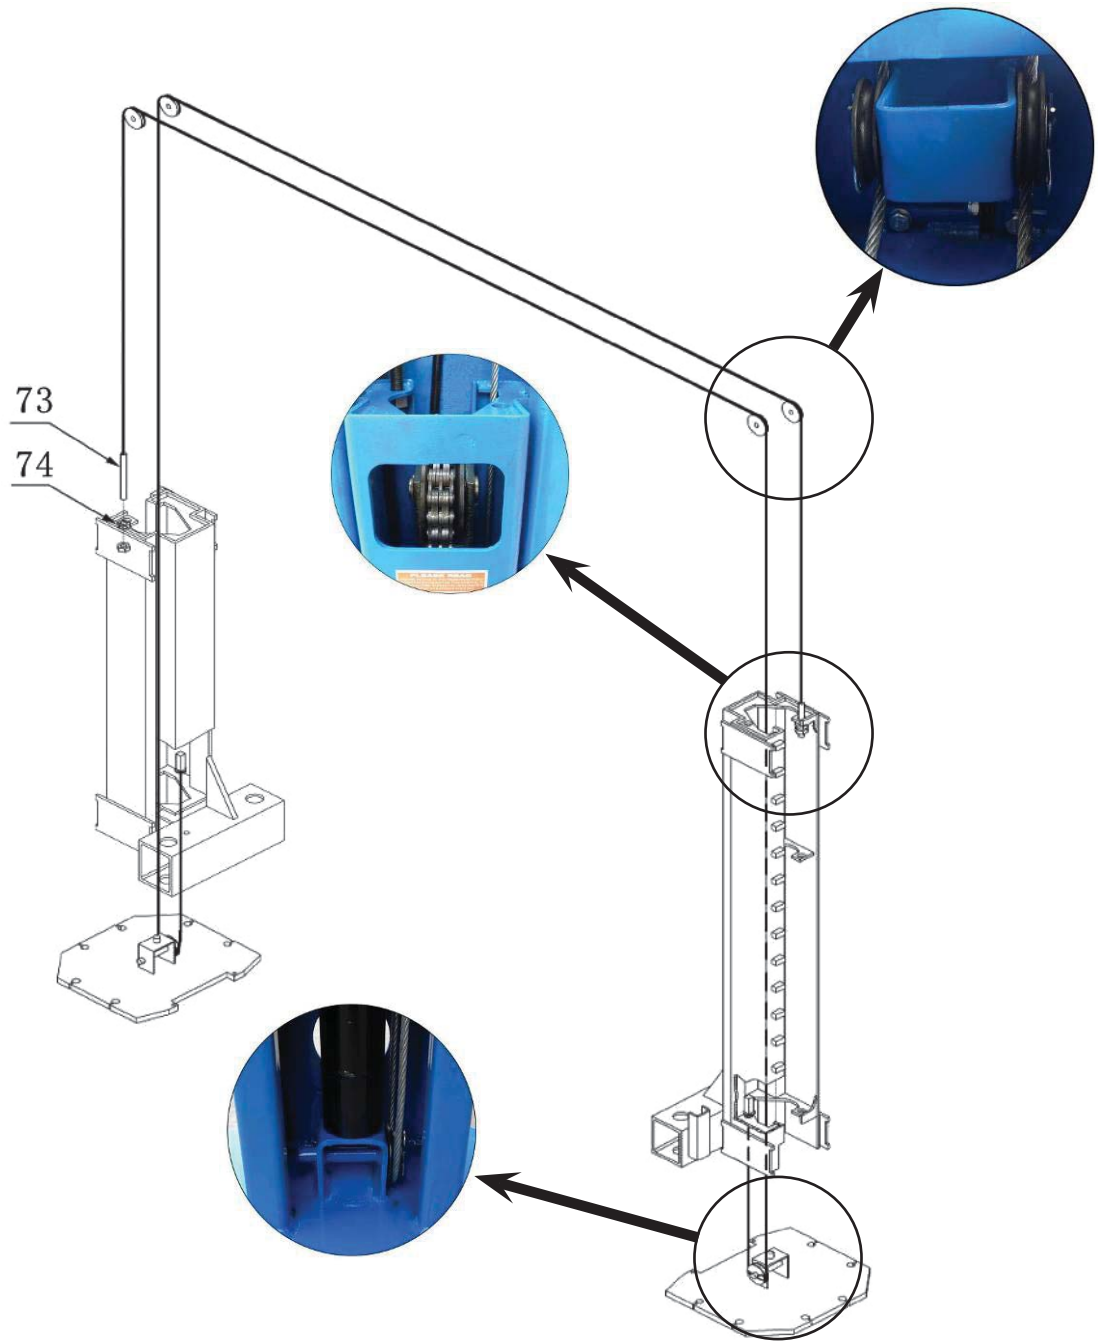

Fig. 12
E. Install cables (See Fig. 12)